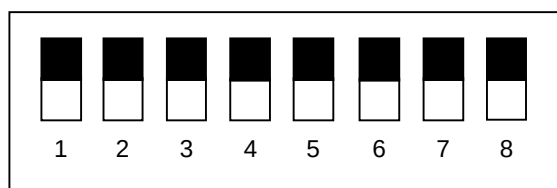

Figure 5.2.2 Standard DIP Switch Setting
- ④ Set DIP switch No.2, as shown in Figure 5.2.2.